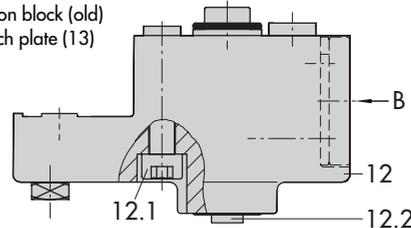

Fig. 4 · Direct attachment – Signal pressure connection for Type 3277 Actuator with 240, 350 and 700 cm²
1. Place follower clamp (3) on the actuator stem, align and screw tight so that the mounting screw is located in the groove of the actuator stem.
2. Mount cover plate (10) with narrow side of the cut-out opening (Fig. 4, left) pointing towards the signal pressure connection. Make sure that the bonded gasket (14) points towards the actuator yoke.
3. For actuators with 700 cm², remove the follower pin (2) at lever **M** (1) on the back of the positioner from pin position **35**, reposition it in the bore for pin position **50** and screw tight.
In versions with the **old** connection block, (Fig. 4, bottom), the switch plate (13) must be turned to align the corresponding actuator symbol with the arrow.
7. Place the connection block (12) with the associated seal rings against the positioner and the actuator yoke. Screw it tight using the fixing screw (12.1).